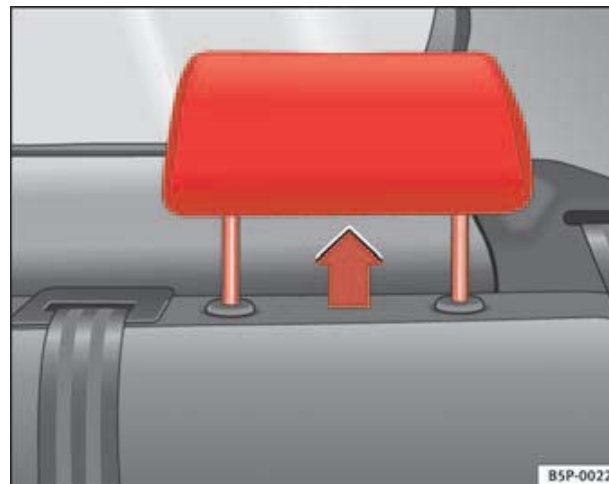

Fig. 5 Head restraints in correct position
- Three positions for **use** ⇒ fig. 5. In these positions, the head restraints are used normally, protecting passengers along with the rear seat belts.